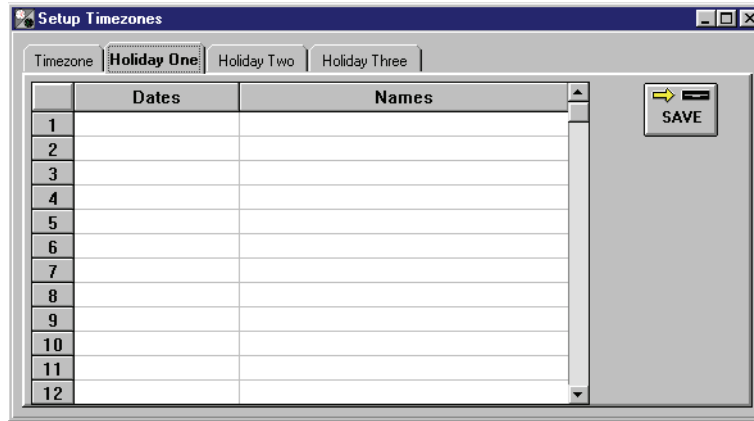

Figure 3-7: Holiday One Entry Window
3. Click on the **Holiday One** tab. The Holiday One window appears (see Figure 3-7 on page 13 of this section).
4. Once all dates and names have been deleted (see Figure 3-7 on page 13 of this section), click on the